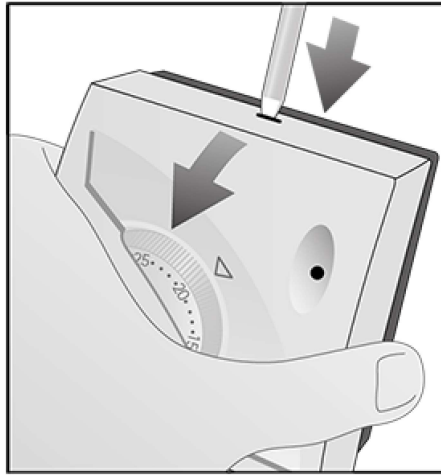
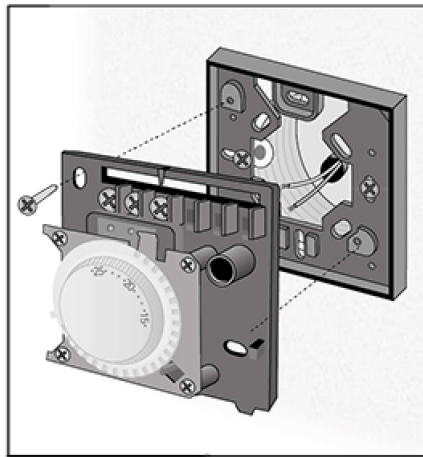

FIG. 8
FIG. 9
B) Remove the front cover from the thermostat base by releasing the provided clip (fig.8), then fix it to the wall (or to the sub-base fitting) through the provided holes (fig.9) and tighten it by means of suitable screws having max of 3,5 mm.